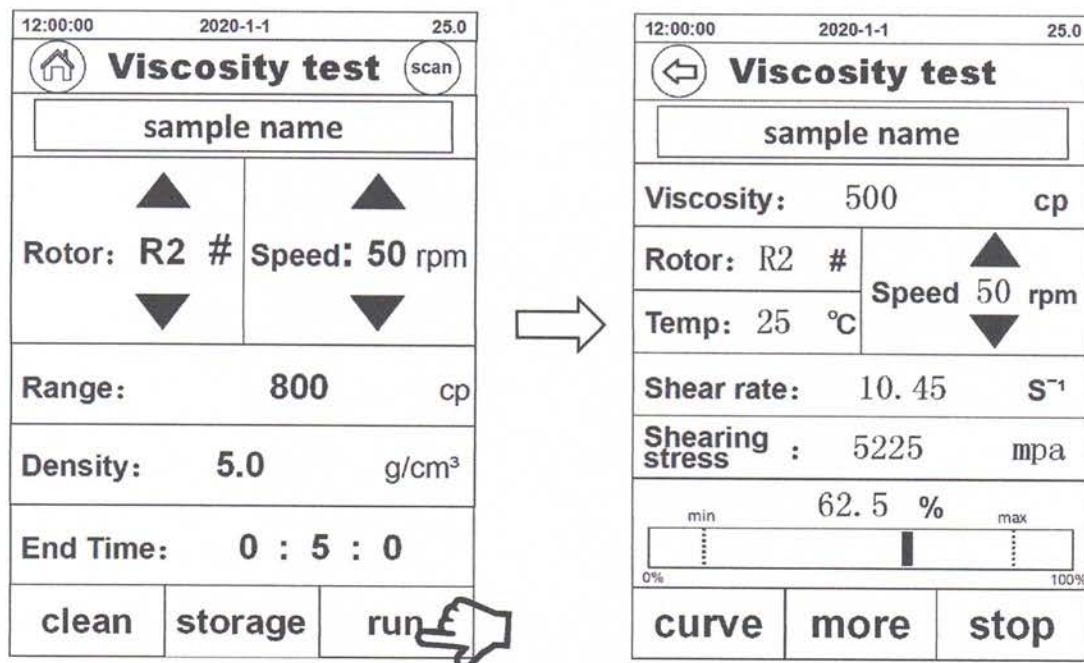

Fig. 19
3) Start the test: After the parameters are set, click "Run" to start the test, and the interface will switch to the test interface (Fig.19)